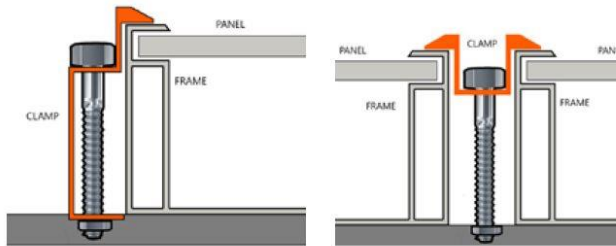

Figure 3. Clamp setup
- The clamps must not contact the front glass of the module or deform the frame in any way. The contact area of clamp with the front of frame must be smooth, otherwise it may damage the frame and hence break the module. Avoid shading effects from the module's clamps. Drainage holes on the modules frame must not be blocked by the clamps. See Figure 3.